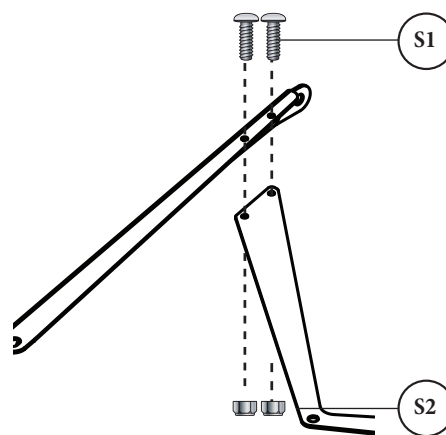

FIG. 9a
Align the Support Brace (L) with the holes on the Right Brace (N) and Left Brace (N). Secure using two Phillips Pan Head Screws (S1) and two Nylock Nuts (S2) as shown in [FIG. 9a].